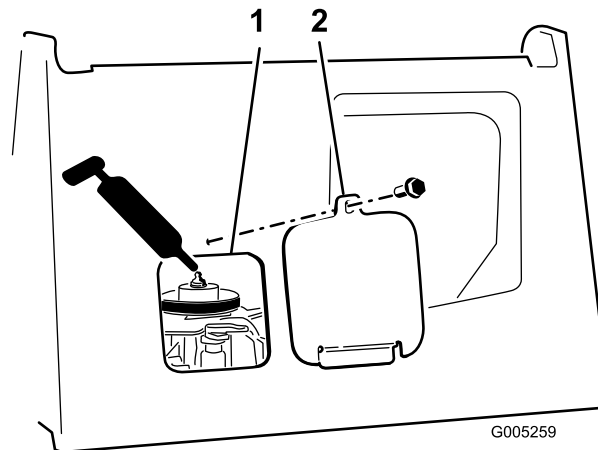

Figure 20
3. Install a grease gun onto the fitting through the gear case access opening (Figure 20).